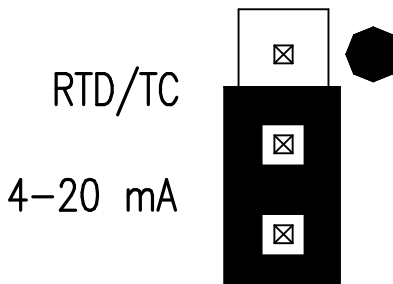
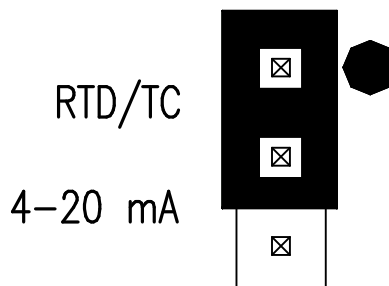

Figure 1 – Jumper in position for 4-20mA Inputs
Figure 2 – Jumper in position for RTD or Thermocouple Inputs
3. Look at the top of the CT224. There is one jumper for each channel located next to the corresponding channels terminal block. For all of the channels that will be used for 4-20mA inputs, set the jumper to the position away from the dot. Figure 1 shows a jumper in the position to allow 4-20mA loops. Leave the jumpers for the other channels that will be used for RTDs and thermocouples in the dot position. Figure 2 shows a jumper in the position for RTD and Thermocouple inputs.
The CT224 is now ready to accept 4-20mA inputs on the channels that are set like the jumper shown in Figure 1.
4-20mA – 4-20mA inputs use terminals B and C. The loop positive should be connected to the B terminal and the loop negative should be connected to the C terminal. When configuring the CT224 for 4-20mA loops, you must set the jumpers located on the top part of the PCB to the position with out the dot. This is shown in Figure 1 in the Pre-Installation Instruction section.